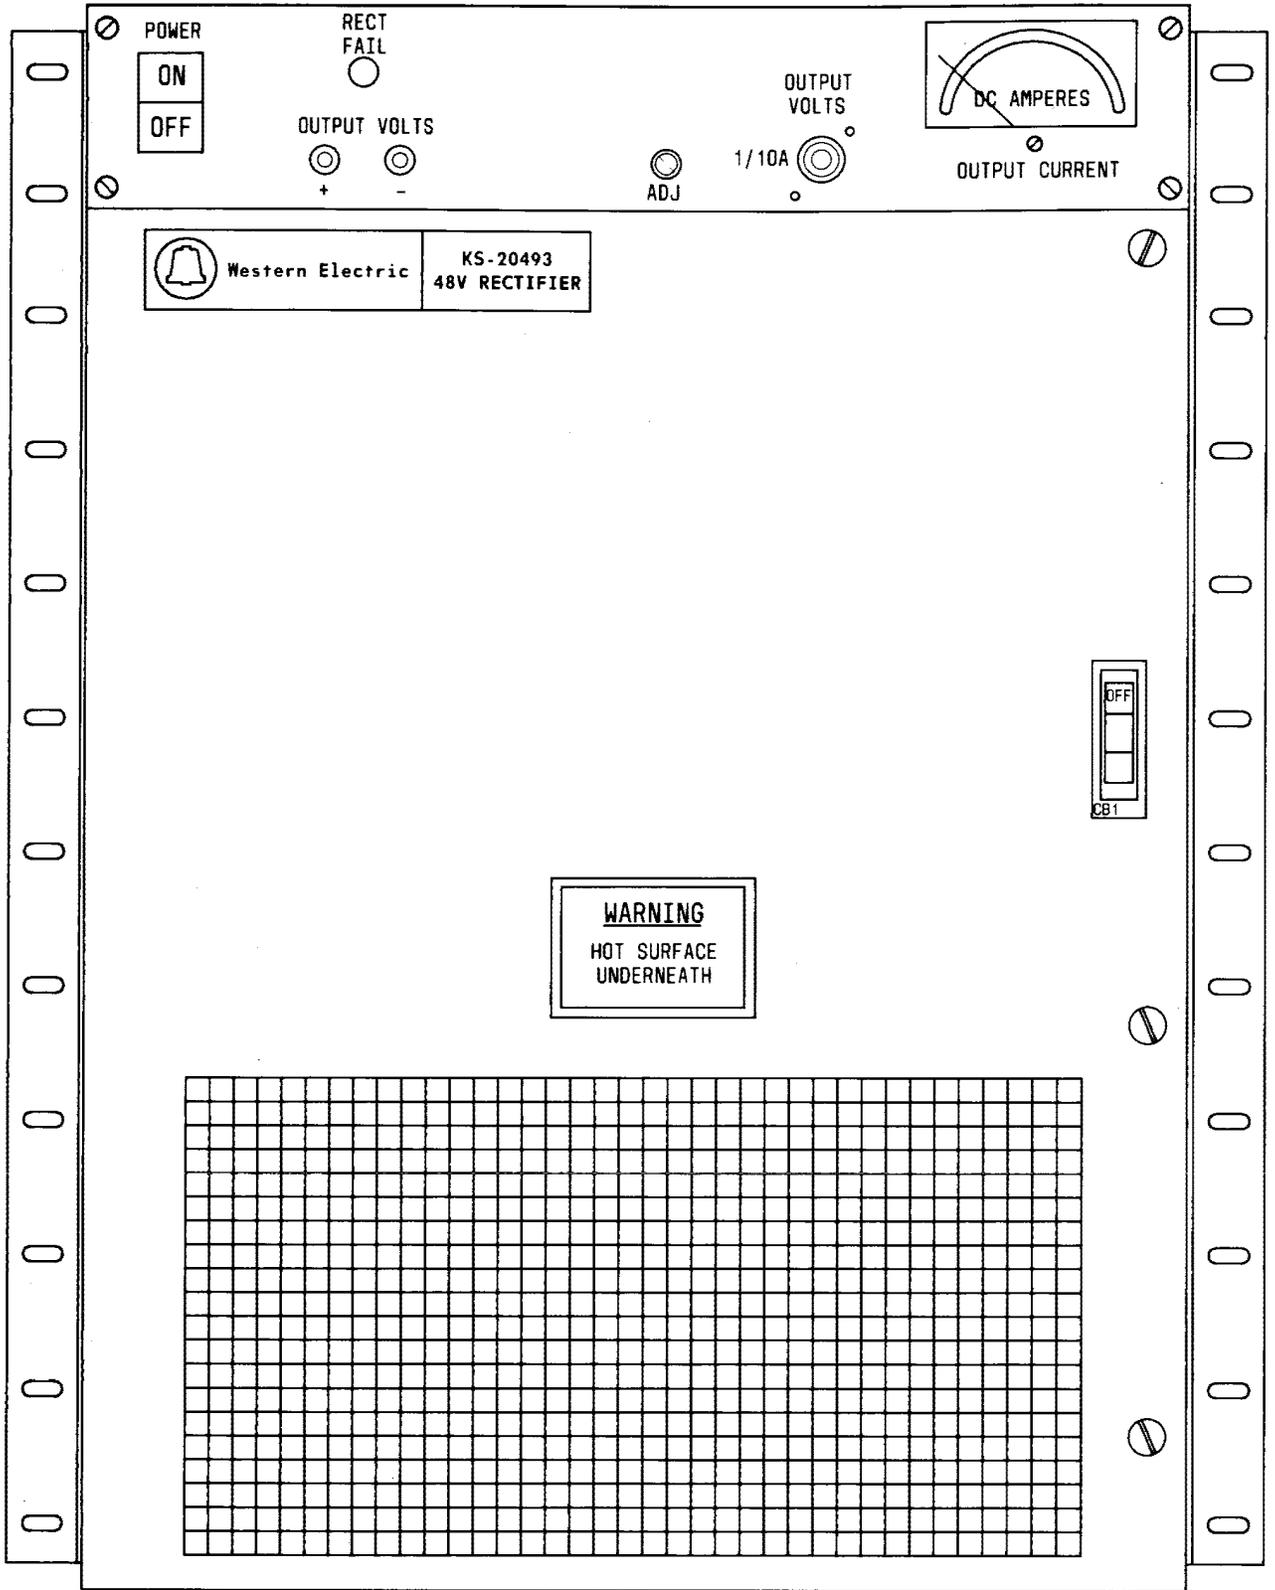
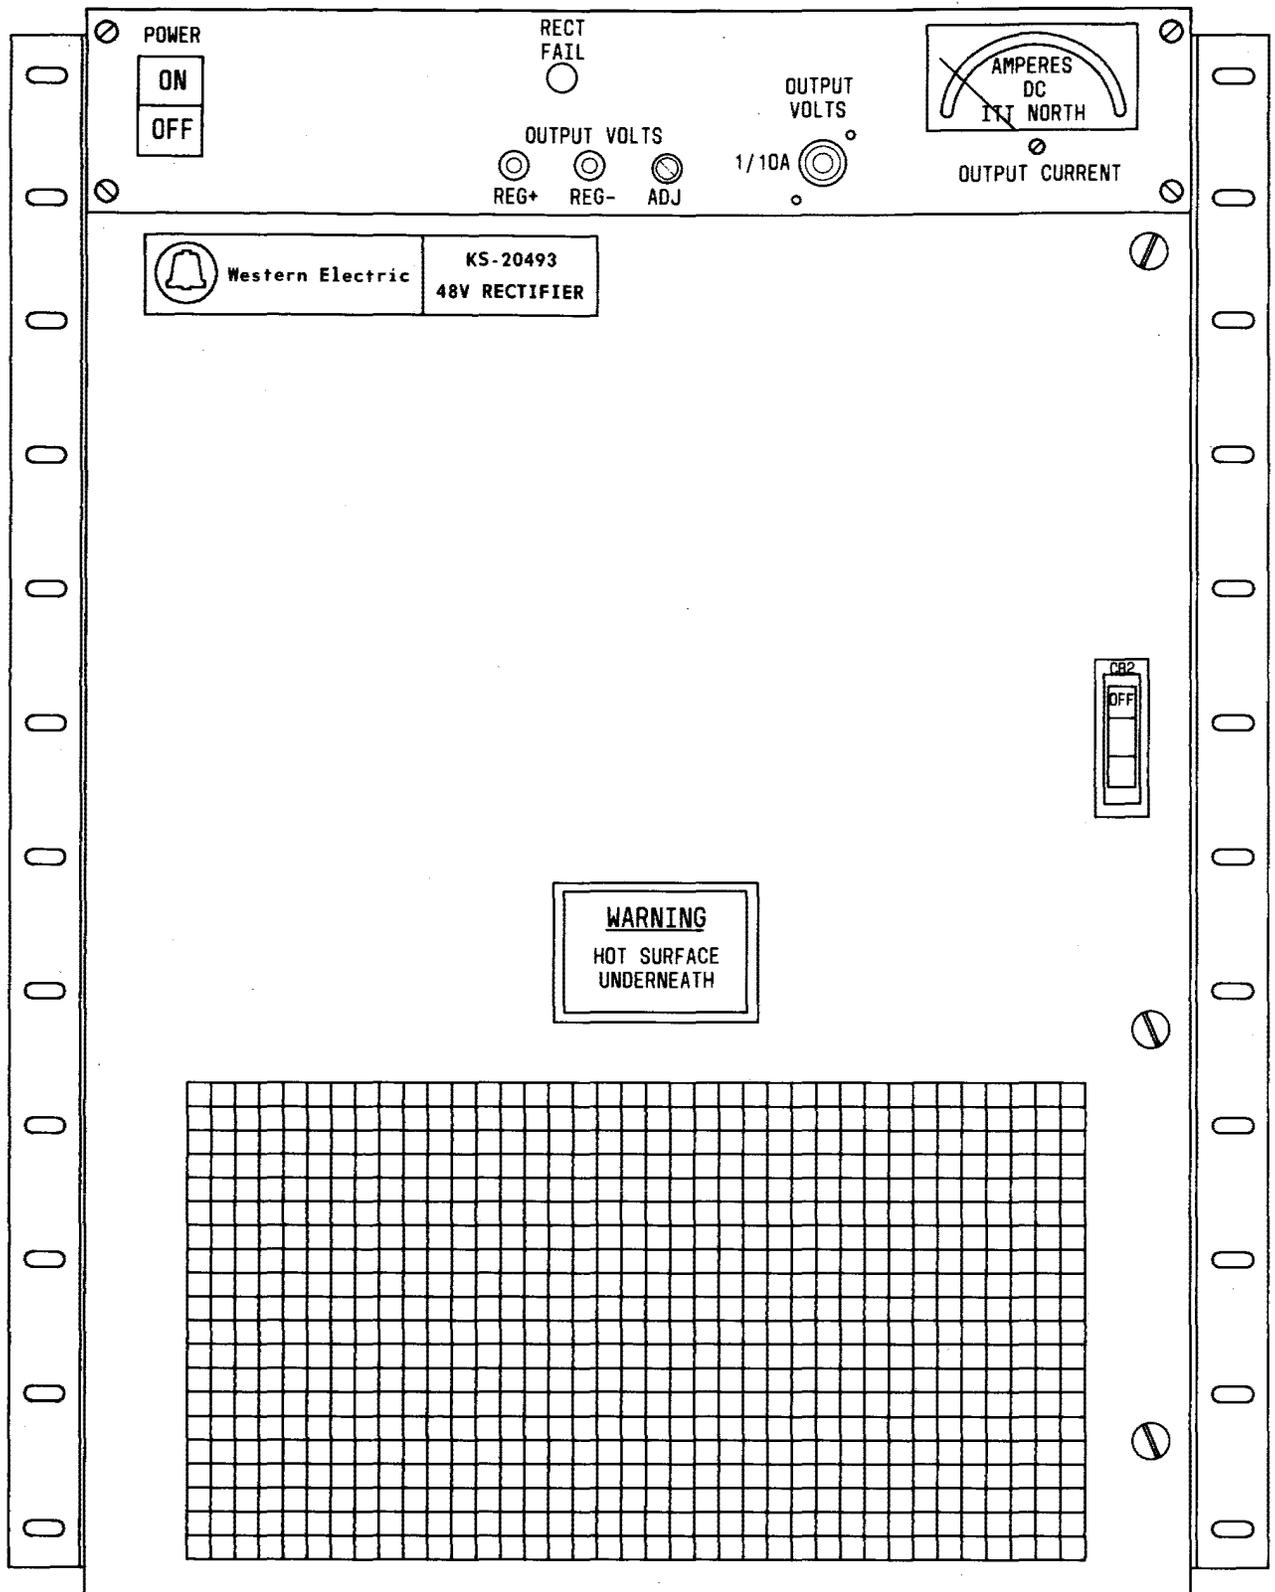

Fig. 6—KS-20493 Rectifier—Front View (Lorain Products Corporation)
Fig. 8—KS-20493 Rectifier—Front View (ITT-North Electric Company)
**2.13** The KS-20493 rectifier is available from two manufacturers; Lorain Products Corporation (Fig. 6 and 7), and ITT-North Electric Company (Fig. 8 and 9). There are significant differences in the internal design of each rectifier, but the equipment features and the output ratings are the same. The instructions in this section are based on SD-81999-02 (Lorain Product Corporation) or SD-82401-02 (ITT-North). The KS-20493, L105, circuit breaker kit (Option S) is also required when used in the 151C power plant.